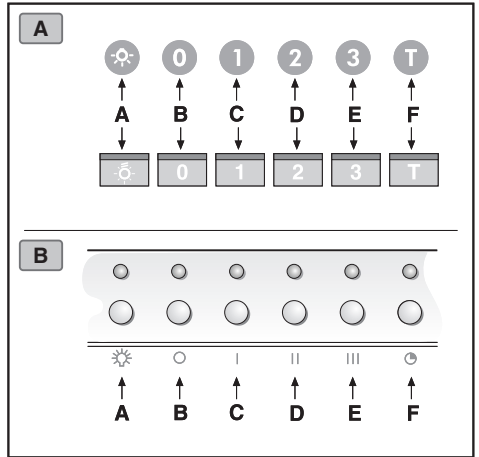

Fig.12
• **Commands luminous (Fig.12.A.B.)** the key symbols are explained below: